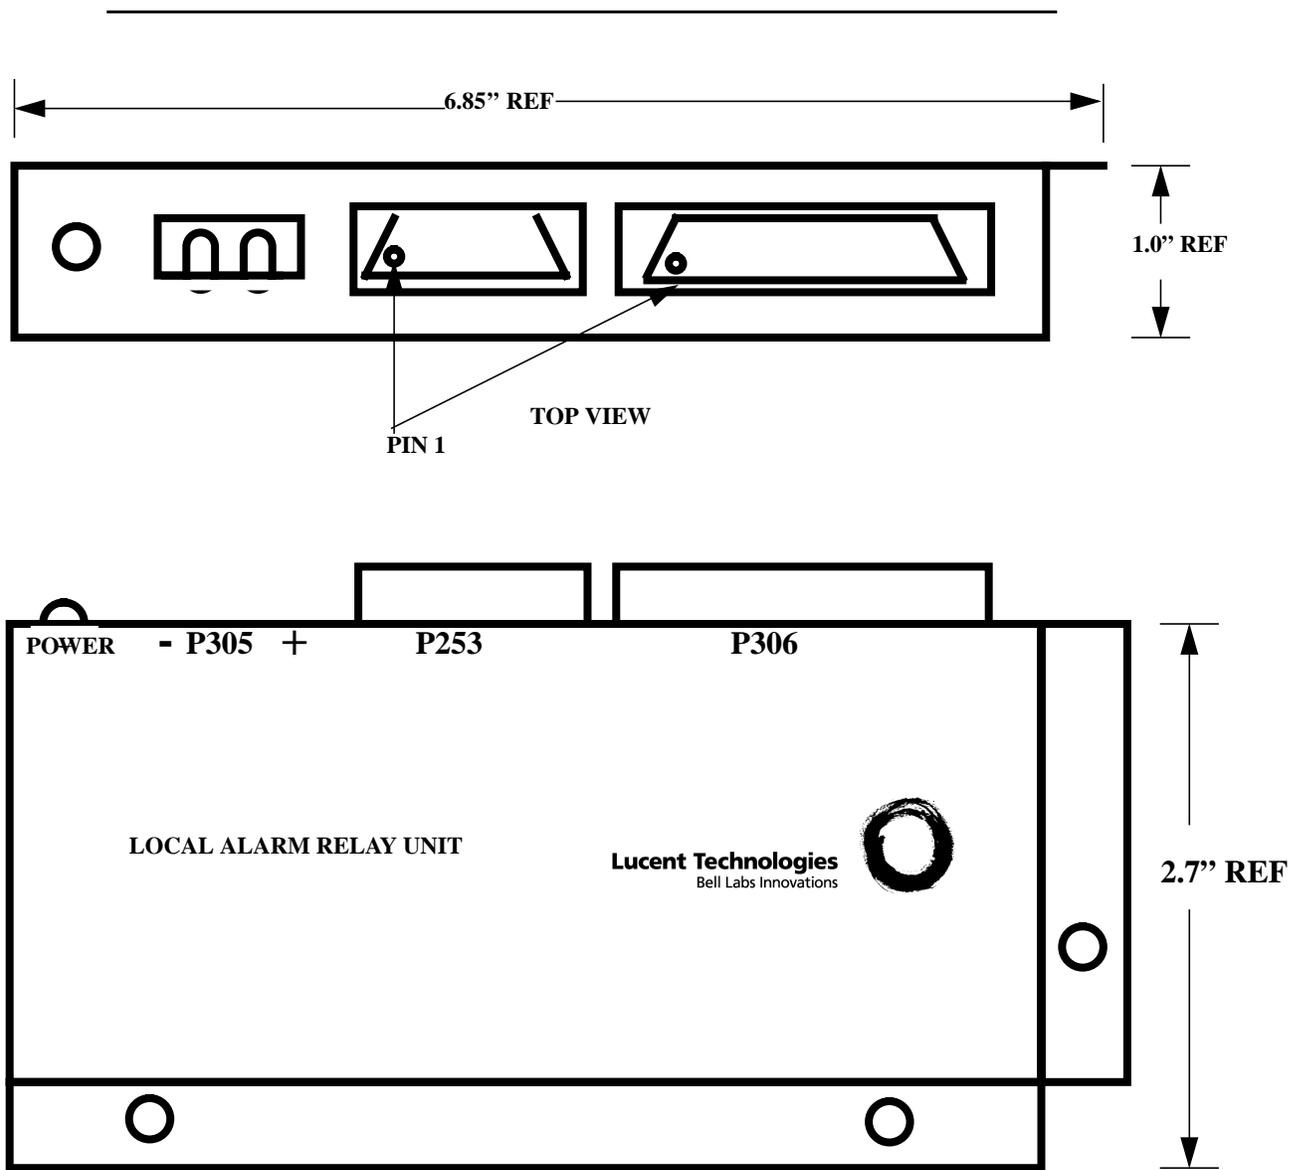

Figure 3. LARU External Views
- Step 3:* Locate the ED00676-30 G1 Power Cable. Engage the connector J305 (on this cable) to P305 on the LARU. See Figure 3.